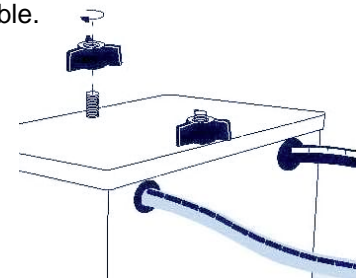

Figure 1
9. Cut furnished adhesive backed foam gasket to fit around perimeter of the underside of the lid where it will seal against box. Install lid over threaded rods and tighten down with thumb screws. See Figure 1.